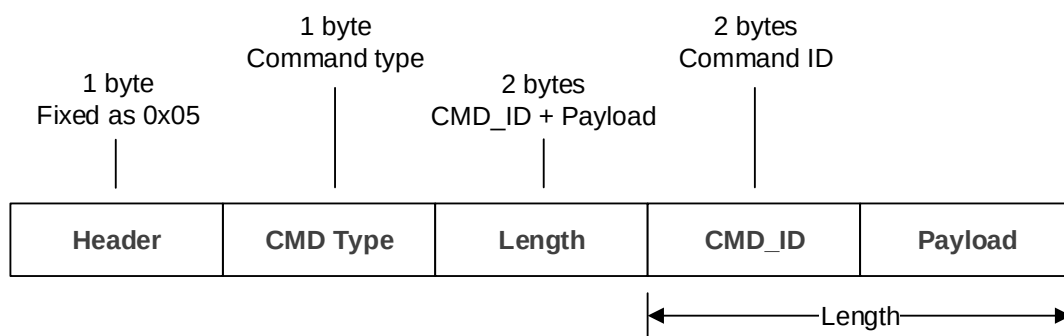

Figure 16: Binary Protocol Structure
2. ²⁾ For receive data frames, see Figure 16: Binary Protocol Structure, Table 16: RACE DA WRITE DATA RESPONSE and Table 17: RACE DA WRITE DATA RESPONSE Payload.